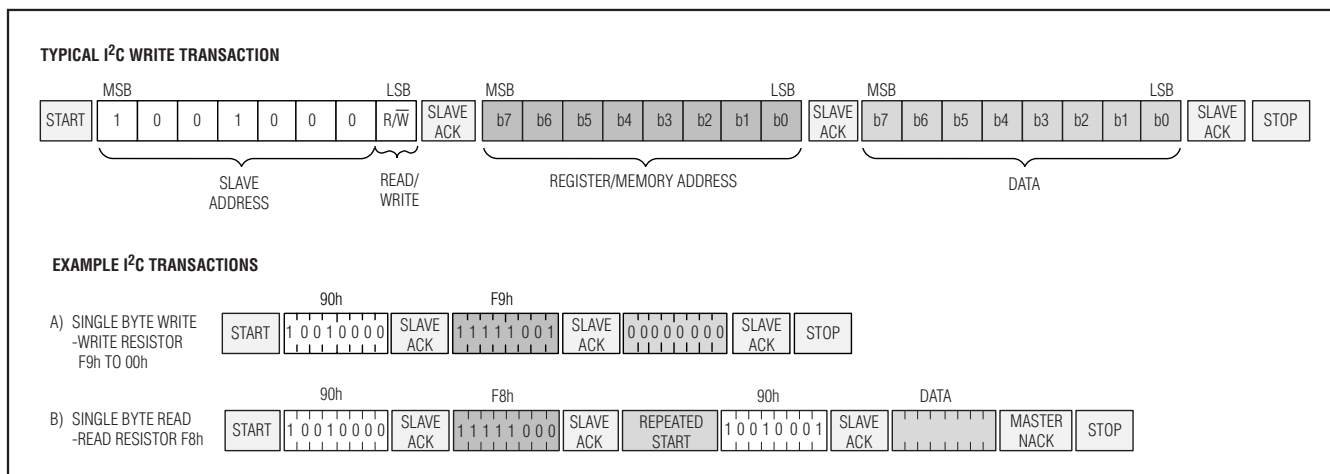

Figure 2. I2C Communication Examples
**Acknowledgement (ACK and NACK):** An Acknowledgement (ACK) or Not Acknowledge (NACK) is always the ninth bit transmitted during a byte transfer. The device receiving data (the master during a read or the slave during a write operation) performs an ACK by transmitting a zero during the ninth bit. A device performs a NACK by transmitting a one during the ninth bit. Timing for the ACK and NACK is identical to all other bit writes (Figure 2). An ACK is the acknowledgment that the device is properly receiving data. A NACK is used to terminate a